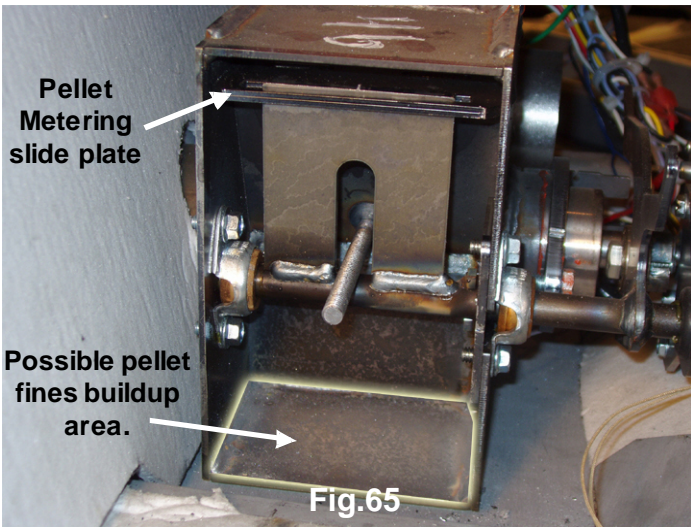

Fig. 65
- Inspect and clean the inner chamber if necessary. See Fig. 65.